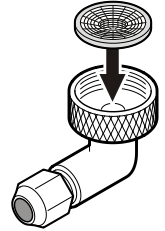

Figure 16
- Insert the water strainer provided into the OD adapter with the cavity downwards (**Figure 16**).